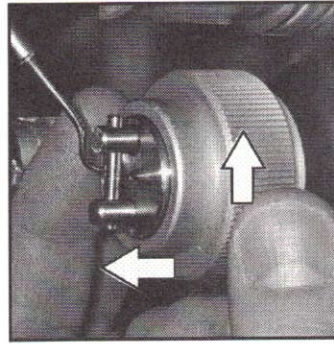

Fig. 1
1. Raise Blade Face Bar by turning the Blade Tightening Knob counter-clockwise. (Fig 1)
2. Insert the tip of the blade to be sharpened into the Blade Positioner by sliding the blade spine into the Blade Groove (Fig 1)